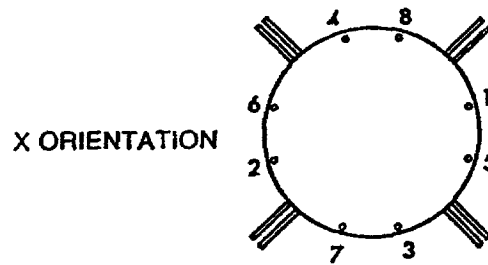

Figure 4-10D. Bomb Fin BSU-86/B or BSU-86A/B Installation
- g. After verifying that aluminum setscrews have been installed, refer to Figure 4-10D and tighten setscrew No. 1 until snug; then back it off one-half turn. Tighten No. 2 and No. 3 until snug; then back off No. 3 one-half turn. Tighten Nos. 4, 5, 6, 7, and 8 in order; then tighten Nos. 1, 2, 3, and 4.